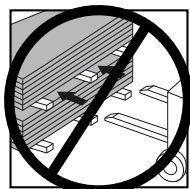

Fig. 5
- Do not push or hit bundles of concrete forming beams with the fork ends. Stickers should be of thick enough material to allow forklift handling without causing damage to the beams. (Fig. 5)